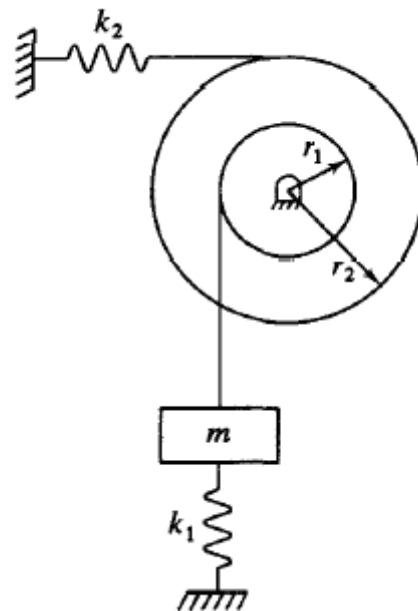

Figure 14:
7. Explain the Energy method of determining the frequency of vibrating system. Calculate the total K.E and P.E for the system as shown in figure 14 and obtain the frequency if $k_1=k_2= 10 \text{ N/m}$ Mass of the rotor is $M = 8 \text{ kg}$, $m = 4 \text{ kg}$, $r_1 = 20 \text{ mm}$, $r_2 = 80 \text{ mm}$. [16]